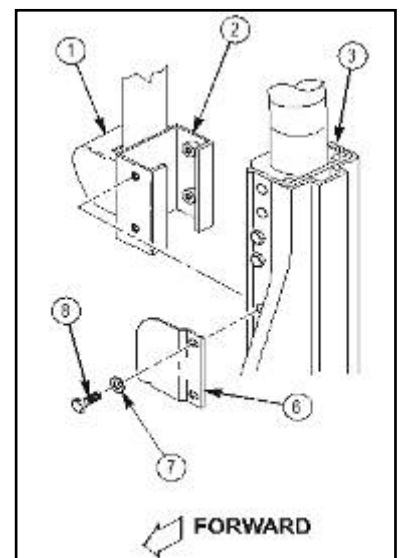

Figure 6a.
L. Remove four capscrews (8), washers (7), seat belt protector plate (6), and left front lower seat belt bracket (2) from vehicle B-pillar (3) as shown in figure 6a. Leave three point seat belt (1) installed on bracket (2). Retain all parts.